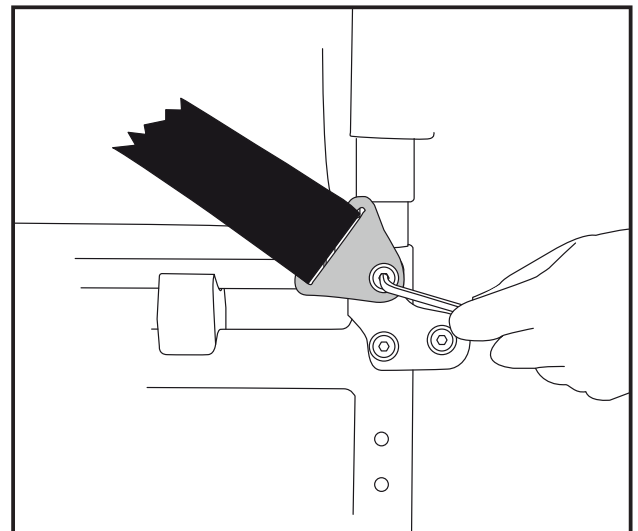

Figure 37
- Fit the hip belt as shown in figure 37. Use the screw you removed.